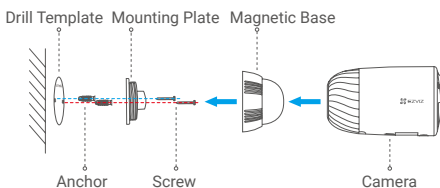
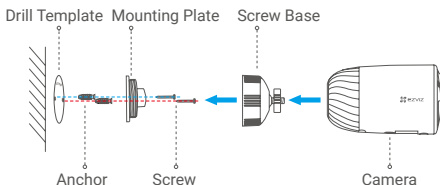

Fig.1 Mount by Magnetic Base
Fig.2 Mount by Screw Base
Step 4 Rotate the magnetic base (Fig.1) or screw base (Fig.2) to the mounting plate.